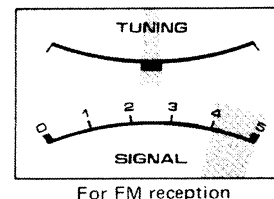

Fig. 14
2. Set the FM MUTING button to the up (ON) position, unless weak station reception is desired.
3. Select desired station by rotating the TUNING knob. Optimum reception is obtained when the pointer of the SIGNAL meter deflects to the extreme right, while the pointer of the TUNING meter indicates the center of the scale. Refer to Fig. 14.